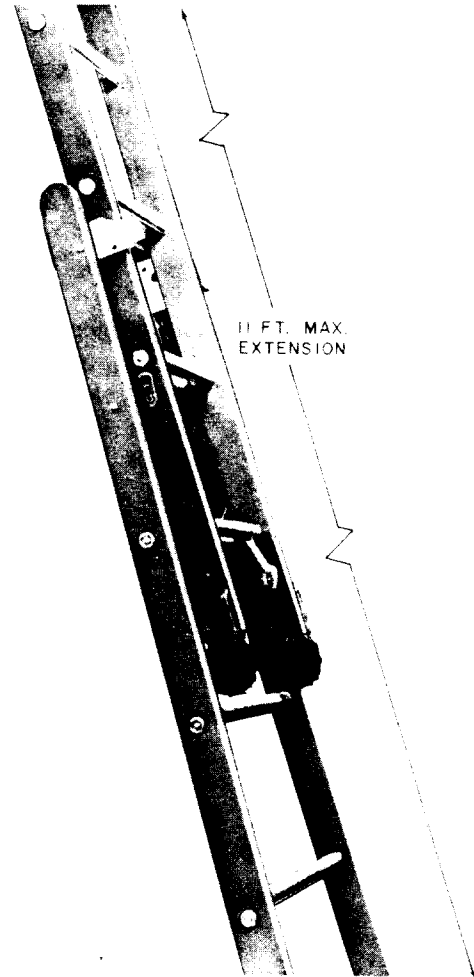

Fig. 3—C Combination Ladder in Extended Position
4.01 To use the C combination ladder as an extension ladder, start from a closed or folded position and slide the narrow section up to the desired height, and place the two bottom hooks of the narrow section over the rung of the wide section (Fig. 3).